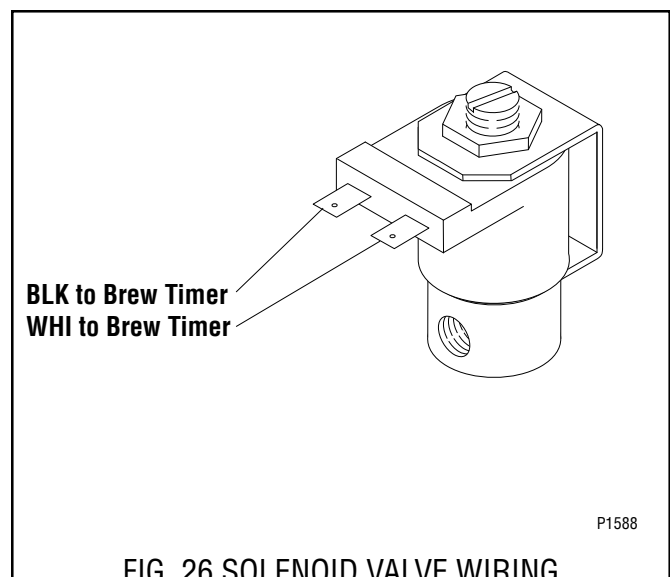

FIG. 26 SOLENOID VALVE WIRING
10. Refer to FIG. 26 when reconnecting the wires.